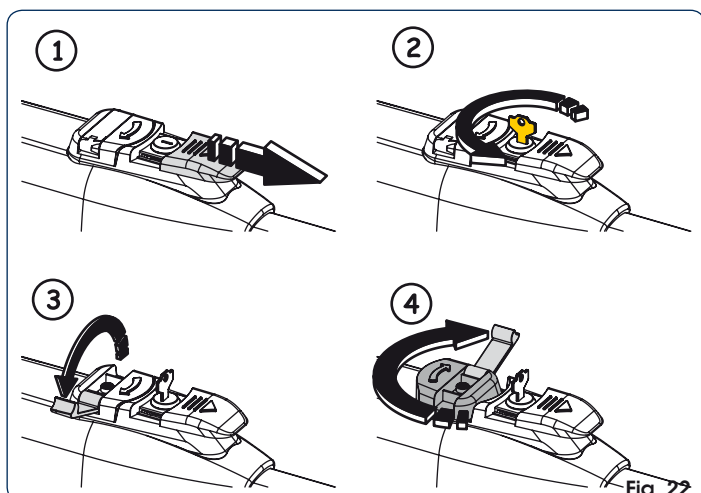

Fig. 22
2. Slide the protective cap, Fig.22/①.
3. Insert the key and turn it 90°, Fig.22/②.
4. Lift the control lever, Fig.22/③.
5. To release the operator turn 180° the control lever to the direction indicated by the arrow on the release system, Fig.22/④.